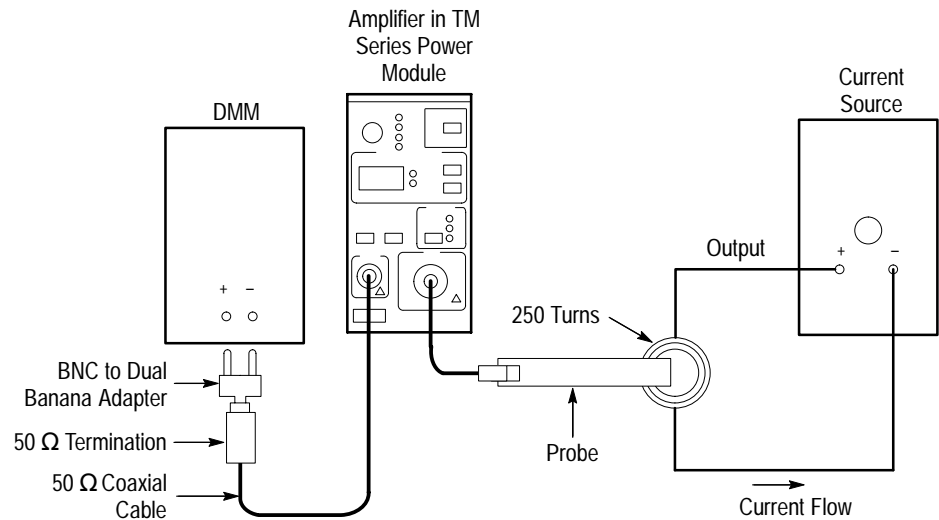

Figure 24: DC Gain Accuracy Adjustment Setup
2. Connect the current loop to the current source as shown in Figure 24.
4. Clamp the current probe around the current loop. (See Figure 24.) Check that the arrow-shaped indicator on the probe points away from the current source.